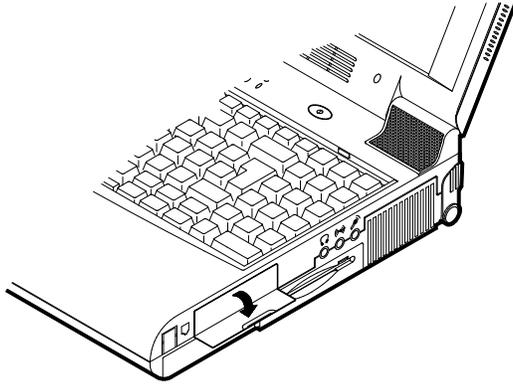

Figure 2-18
1. Open the access door (Figure 2-18).